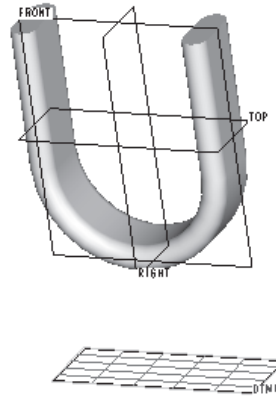

Figure 7-49 Datum plane at an offset distance
- c. The second feature is an extrude feature. Create a datum plane that will be used as the sketching plane for this feature, see Figure 7-49. Draw the sketch for this feature, apply dimensions and constraints, and then extrude the sketch upto the outer curved surface of the base feature, see Figure 7-50.
4. Choose **Done** from the **DATUM PLANE** submenu. Choose the **Refit the object to fully display it on the screen** button. The datum plane **DTM1** is created as shown in the Figure 7-49.